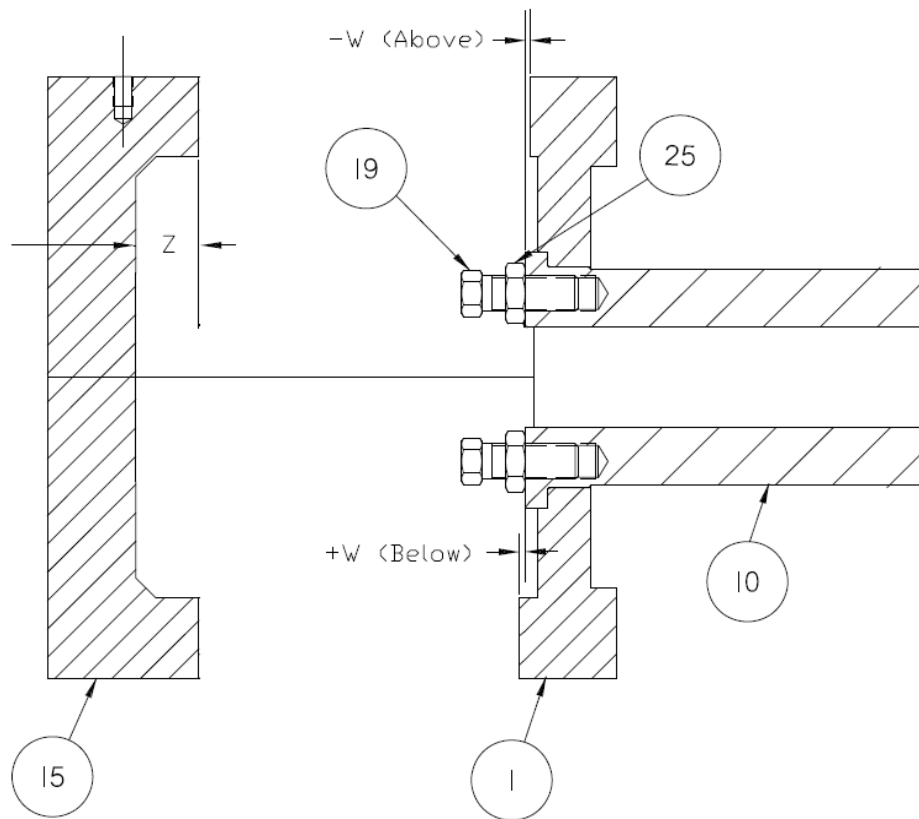

Figure 3 - Set Adjustment Screws, Outboard End
Repeat above procedure for outboard end cover (15) following directions outlined in Figure 3. When correct adjustment is confirmed for the outboard end cover, proceed to Step 5 before final installation of outboard cover (15).